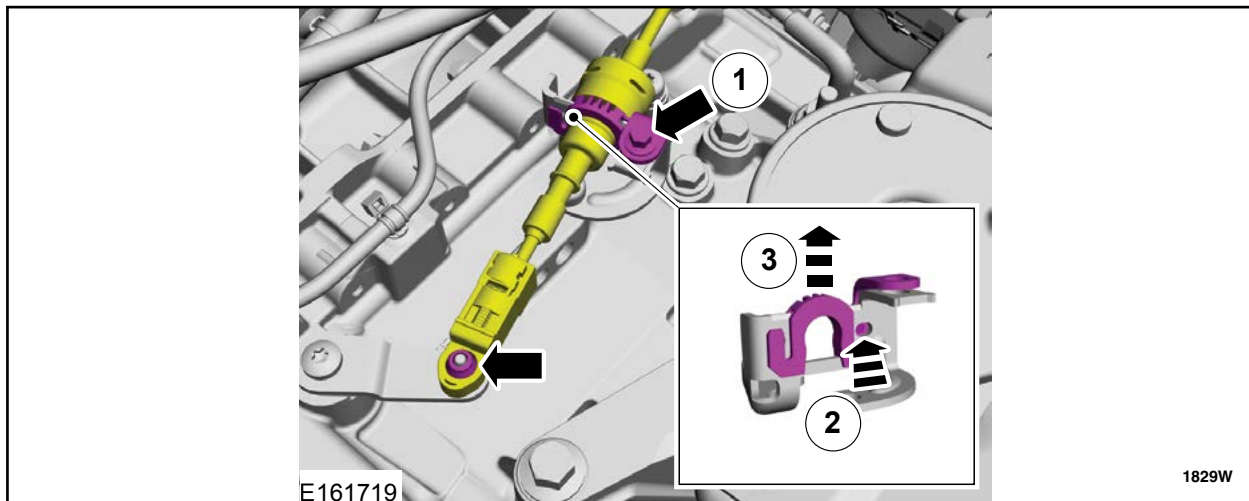

FIGURE 2
5. Disconnect the selector lever cable from the transmission manual lever and the bracket. See Figure 2.